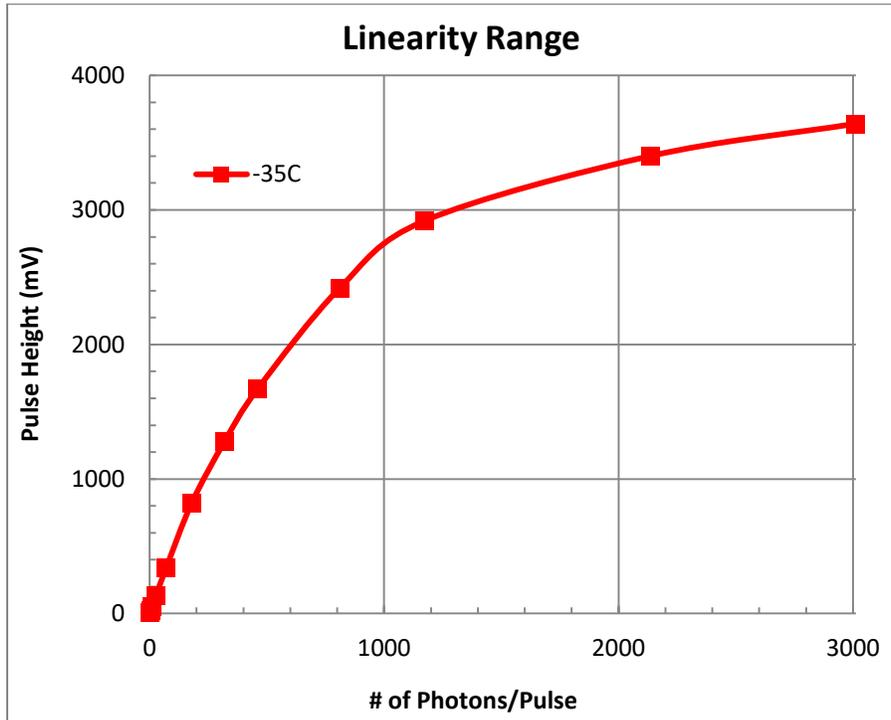

Fig. 3: Typical linearity ranges
In addition, the linearity, the photon number throughput and the saturation level are related to the recovery time of each of the amplification channels, which is approximately 30ns. In illumination levels below the saturation level, the DAPD is always on, and does not have any dead time. Once all channels of a specific detector element are issuing a response charge, the detector becomes saturated and the linearity is reduced. However, electric field shielding, as well as gain saturation effects, allow for a monotonous signal increase as the number of photons increases above the saturation level. This behavior is shown schematically in Fig. 3. As can be seen in Fig. 3, there are two regions of linearity as a function of the illumination level: A Linear Region (1), up to ~ 1200 photons/pulse, and a Monotonous Region (2), above ~ 1200 photons/pulse.
Region one, the linear region, ends with what we refer to as the saturation level of the detector, shown as the “knee” of this chart, which is approximately 1200 photons per pulse, in the specific DAPD detector, whose characterization is shown in Fig. 3. The linearity measurement shown in Fig. 3 was performed with a standard DAPD, which has a larger number of amplification channels than the 5×5 -array element, and thus a higher saturation level. The saturation level of each the 5×5 -array elements is approximately 600 photons per pulse (not shown). Whatever the saturation level, the linearity behavior
is similar to the one shown in Fig. 3, exhibiting two ranges: the linearity range and the monotonously increasing signal level range.